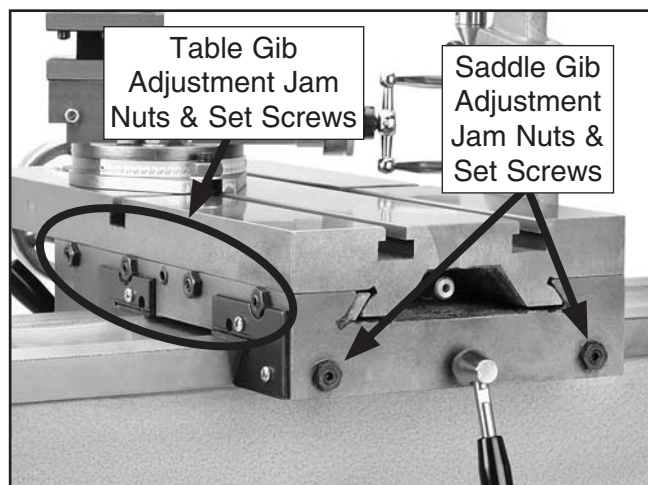

Figure 102. Table and saddle gib adjustment fasteners.
2. Loosen the jam nuts shown in **Figure 102**.